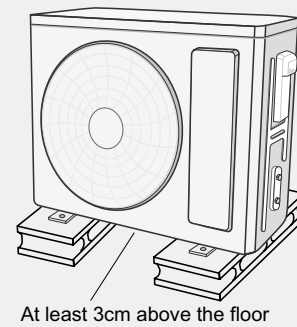

Fig.18
- The outdoor unit should be installed at least 3cm above the floor in order to install drain joint. (As shown in Fig.18)